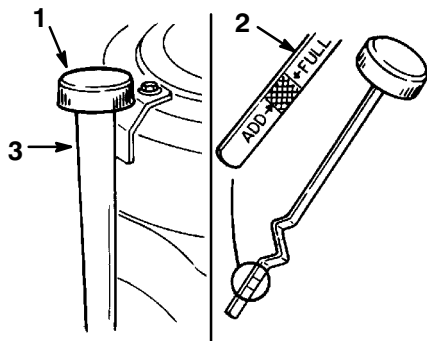

Figure 20
7. Slowly pour approximately 80% of the specified amount of oil into the filler tube (Fig. 20). Now check the oil level; refer to Checking Oil Level, page 23. Slowly add additional oil to bring to "FULL" mark on dipstick.